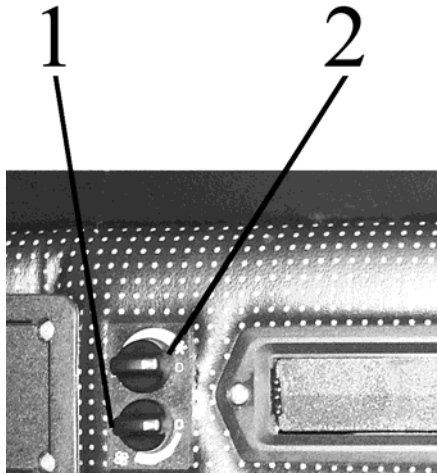

Figure 2.10 – Controls of cab air conditioning and heating system
The climate system control panel is in the center of the upper panel of the cab. The control panel has the switches 1 and 2 (Figure 2.10).
- turn the switch 2 (Figure 2.10) clockwise by 180°C to the beginning of the blue scale;
ATTENTION: WHEN WORKING IN THE HEATING MODE, THE SWITCH 2 (FIGURE 2.10) MUST BE FULLY OFF TO PREVENT SIMULTANEOUS OPERATION OF THE AIR HEATING AND COOLING SYSTEMS.
The climate system starts operating in the air conditioning mode with the engine running, when the desired fan speed is set with the switch 1 (Figure 2.10), and the switch 2 (Figure 2.10) is set to the beginning of the blue scale.
The air conditioning system can automatically maintain the preset temperature that is set by turning the switch 2 (Figure 2.10) controlling the thermostat. Turning clockwise will decrease the temperature setting, turning counterclockwise will increase it. Protection from critical conditions is ensured by the pressure sensor and the thermostat. The sensor turns off the system when the pressure is too high (over 2.6 ± 0.2 MPa) or too low (below 0.21 ± 0.03 MPa) pressure. The thermostat turns off the system when the temperature of the cooling section of the heat exchanger unit drops too low. Performance of the system is adjusted by the fan speed and the thermostat. The compressor can operate at that both continuously and cyclically.